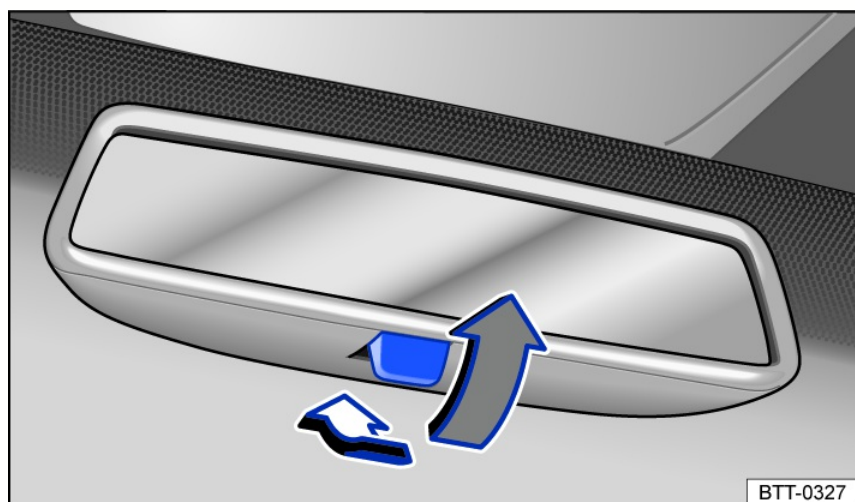

Fig. 100 On the windshield: manual dimming interior rearview mirror.
- To dim, pull the lever back *fig. 100*.